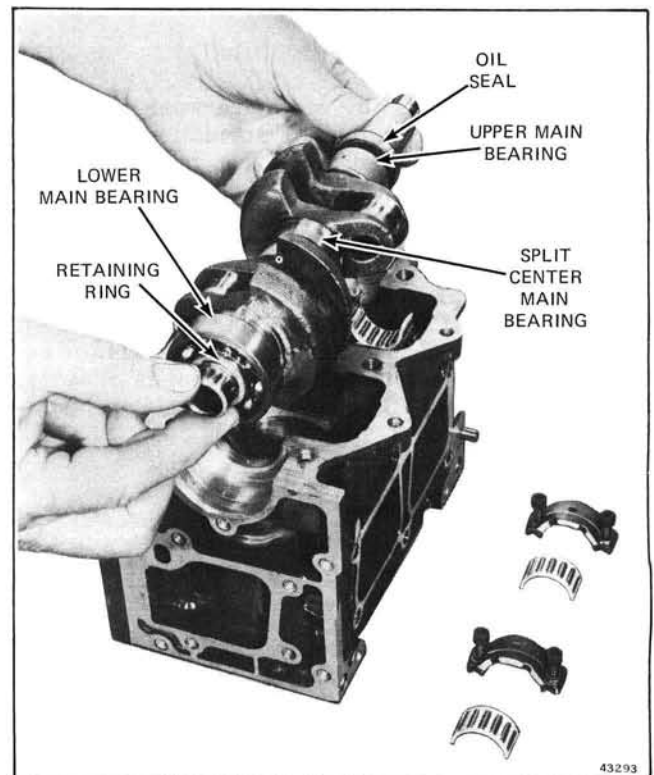

Figure 5-20. Removing Crankshaft
Pistons, connecting rods, bearings, and caps are matched parts and seat with the operation of the motor. Because of this it is essential to maintain their original positions at re-assembly. See Figure 5-20.
k. Lift crankshaft from cylinder block. See Figure 5-20. Reinstall matched caps on connecting rods and remove pistons and rods from cylinders.
l. Lift retaining ring out of groove and slide aside to remove the crankshaft center main roller bearing for cleaning and inspection. The top main bearing slides off. If necessary to remove the bottom main bearing, remove Truarc ring and use an appropriate bearing puller. See Figure 5-20.